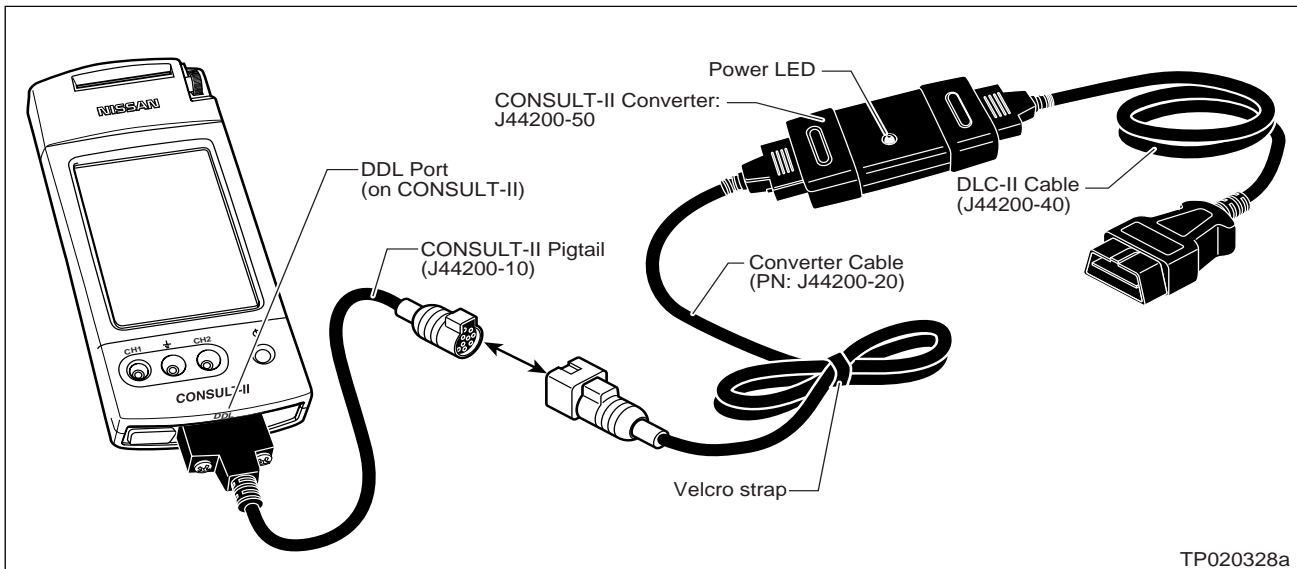

Figure 11
3. Connect CONSULT-II to the vehicle using the DLC-II cable with black Converter Box (see Figure 11).
- Make sure all other DLC-II cable connections (as shown in Figure 11) are connected properly.
- Nissan requires the use of essential tools shown in Figure 11 when performing VDC reprogramming.
- d. The CONSULT-II Converter (J44200-50 / black box) is not working correctly (see Figure 11).